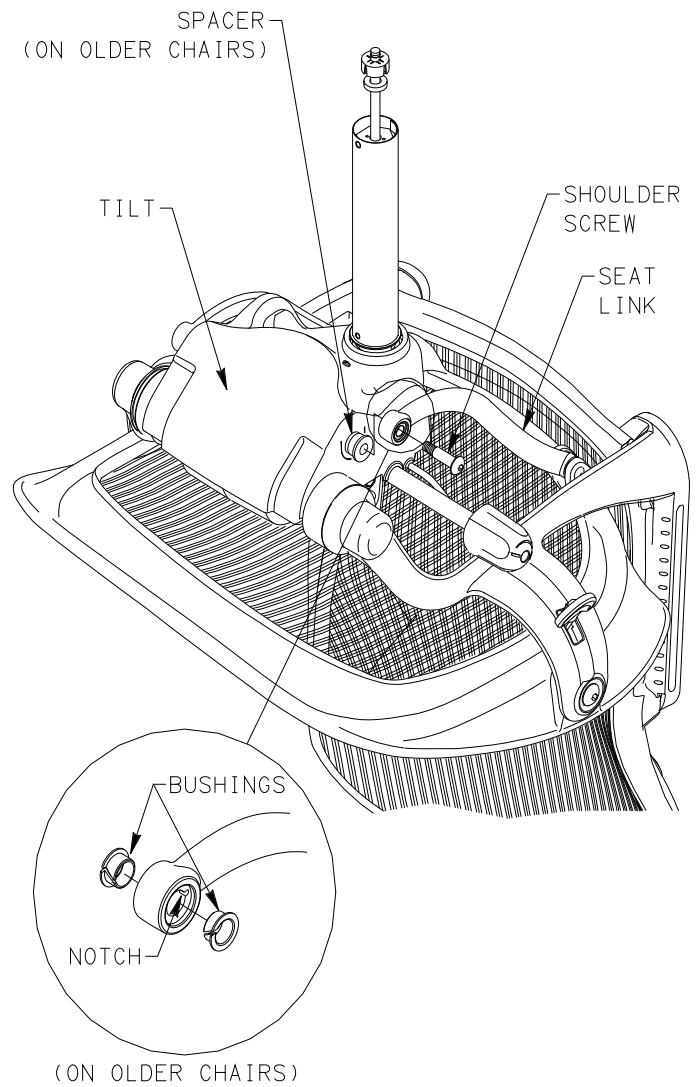

FIGURE 5
5. USING 6MM HEX BIT AND RATCHET WRENCH, REMOVE FRONT SHOULDER SCREW AND SET SHOULDER SCREW ASIDE. NOTE ANY SPACER AND BUSHINGS (USED ON OLDER CHAIRS). REMOVE SPACER, IF PRESENT, FROM BOTTOM TILT COVER AND SET ASIDE. PIVOT SEAT LINK BACK. SET ASIDE ANY DISLODGED BUSHINGS. REPEAT FOR OPPOSITE SIDE. SEE FIGURE 5.
8. RECONNECT SEAT LINKS TO TILT BY HAND THREADING SHOULDER SCREWS THROUGH SEAT LINK ENDS UNTIL THREADED SNUG IN TILT HOUSING. ON OLDER CHAIRS, MAKE SURE SPACERS AND ALL BUSHINGS ARE PRESENT AND PROPERLY INSTALLED. IF NECESSARY, RESEAT BUSHINGS IN SEAT LINK END BY ORIENTING BUSHING WITH NOTCH IN SEAT LINK. USING 6 MM HEX BIT AND TORQUE WRENCH, TORQUE SHOULDER SCREWS TO 120-150 IN-LBS. SEE FIGURE 5.